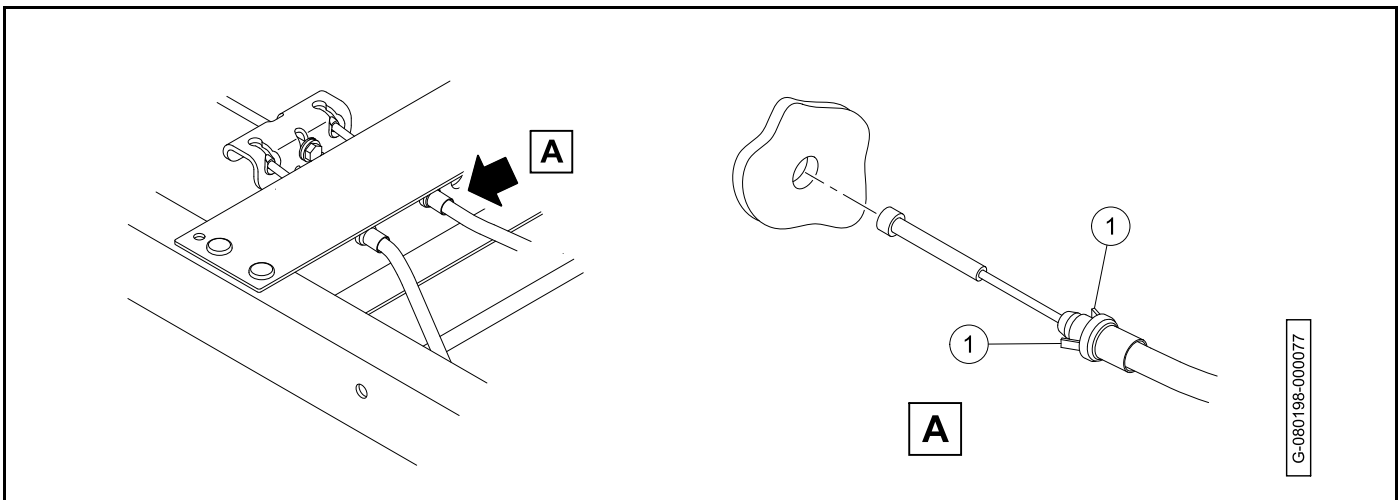

Figure 6-28
- Remove the mounting tab (3) of the brake cable from the bolt.
11. Use a brake cable release tool to compress the retaining clips (1) on the end of the cable housing enough to slide the cable end out of the hole in the frame (**Figure 6-28**).